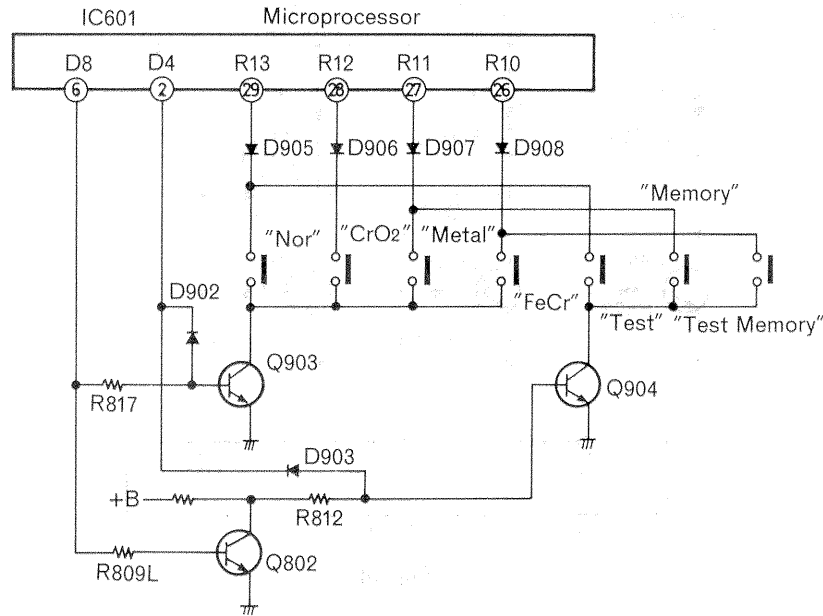

Fig. 13
The relationship between the 7 types of key input and 4-bit key input from the microprocessor are shown in Table 4. They are obtained by synchronizing the L/R selection signal output from D8 of the microprocessor. That is, L/R selection signal is inverted every 20 ms, and Q903, shown in Fig.13, is activated at Hi potential, so the key input shown in Table 4 (Item (1) — (4)) is detected. At Lo potential, Q904 is activated, so the key input shown in Table 4 (Item (5) — (7)) is detected. Q903 and Q904 operate in opposite ways so key input does not overlap. When there are 2 or more key inputs to the 4-bit input, operations are ignored.
Key input terminals R10 — R13 are concurrently used as REC equalizer/bias & A/D control data output terminals; key input during output of data is inhibited. Output terminal ② of IC601 shown in Fig. 13 is set to Lo potential during output of data from terminals R10 - R13, Q903 and Q904 are cut off and key input is inhibited.